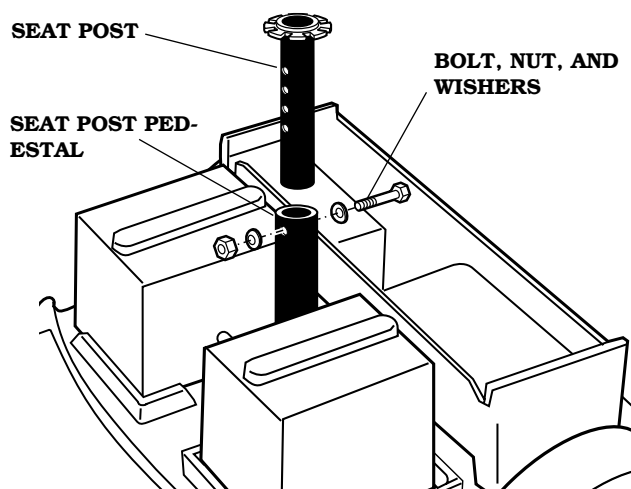

FIGURE 33. SEAT POST INSTALLATION
1. Insert the seat post into the seat post pedestal. See figure 33.